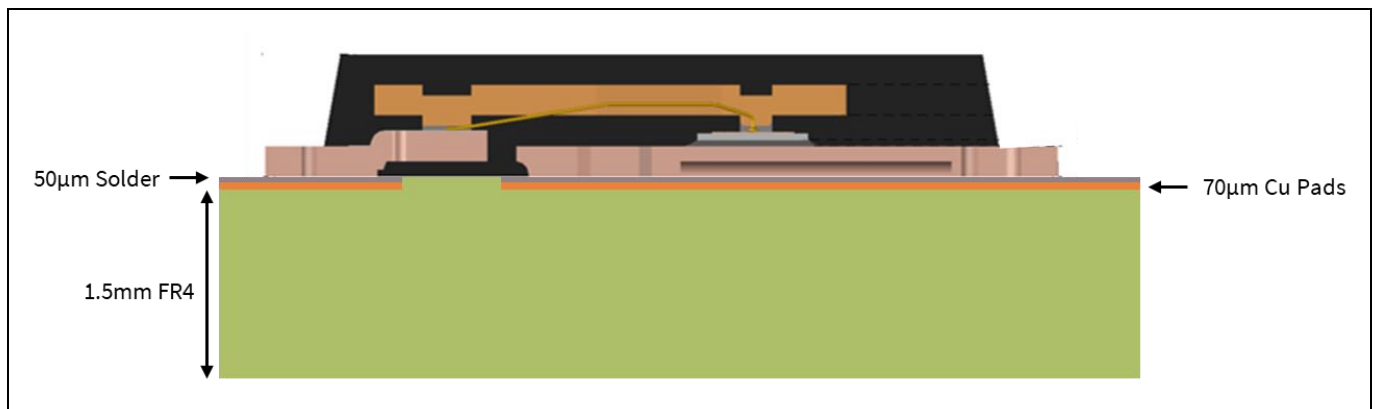
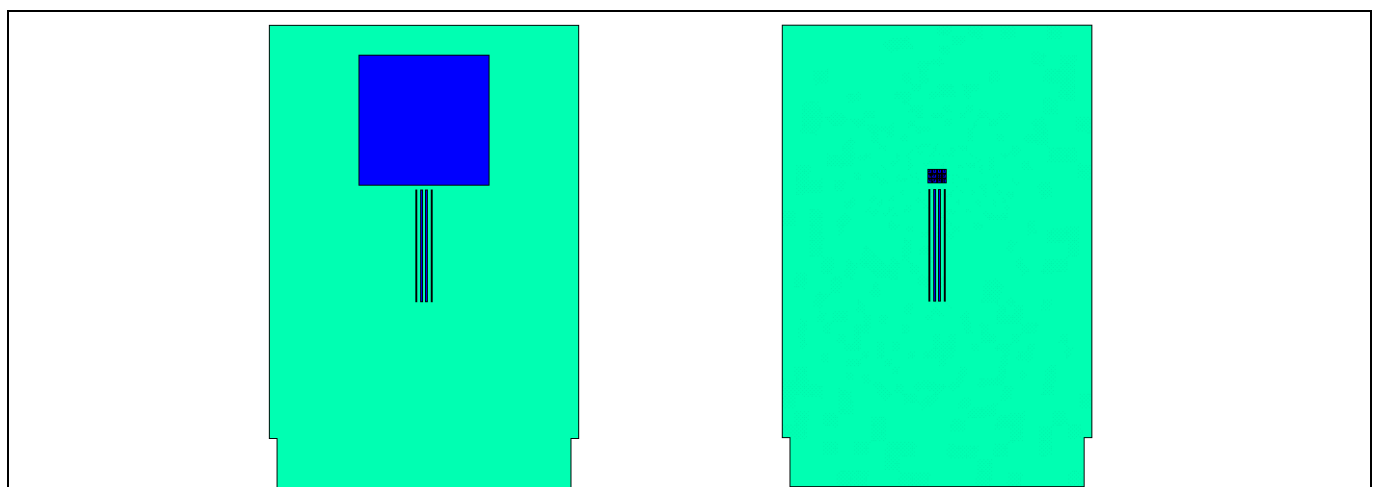

Figure 6 Package on JEDEC 1s0p board
Figure 7 Top view on board with 1s0p 1000mm² copper area (left side) and 1s0p footprint only (right side)
- PCB construction is according to JEDEC standards 1s0p, without thermal vias (Figure 6) Copper areas can vary in size e.g. 600 or 1000mm²; see Figure 7.